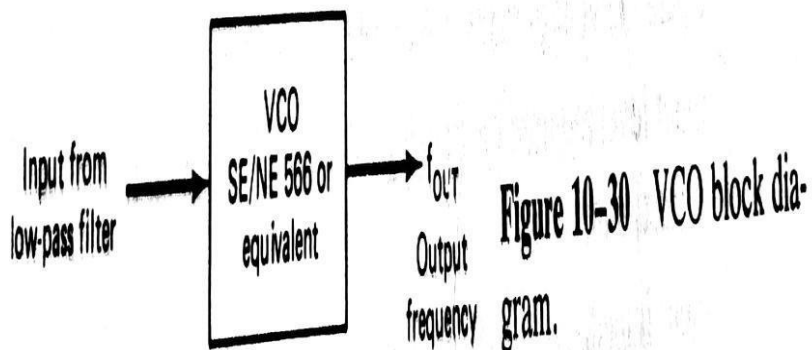

Figure 10-30 VCO block diagram.
- The VCO generates an output frequency that is directly proportional to its input voltage. The block diagram of the VCO is shown in Figure 10.30.